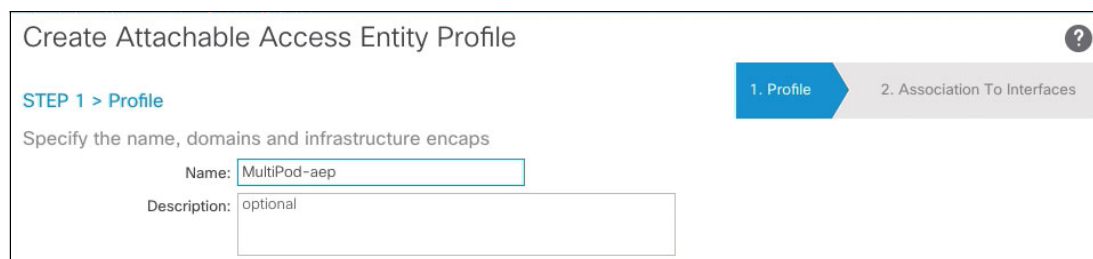

Figure 4-4 Attachable Access Entity Profile
3. Provide a name for the AEP (MultiPod-aep) and click **Next** (Figure 4-4).